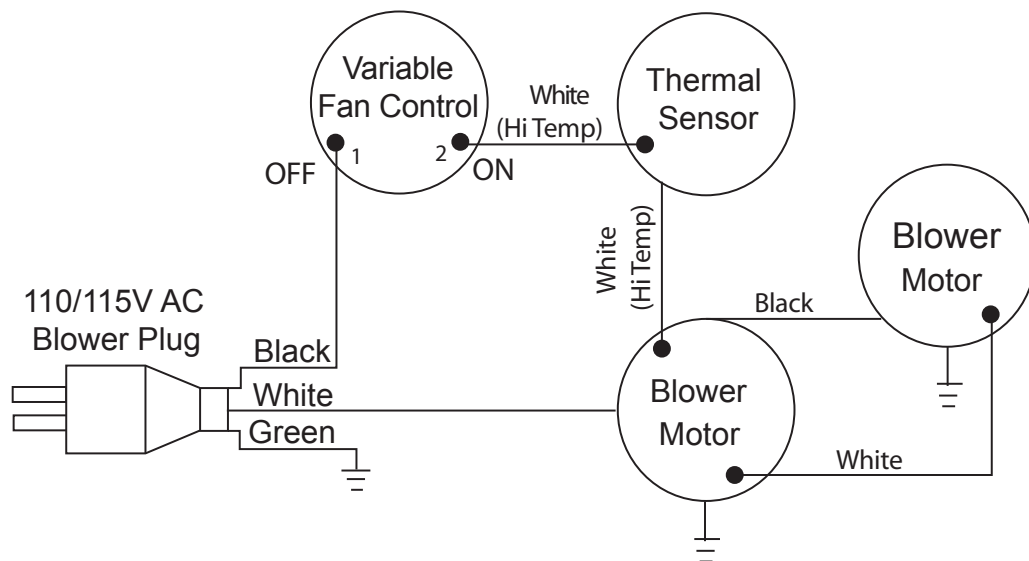

Figure 55 - Blower Wiring Diagram
13. Connect wiring according to the wiring diagram Figure 55.